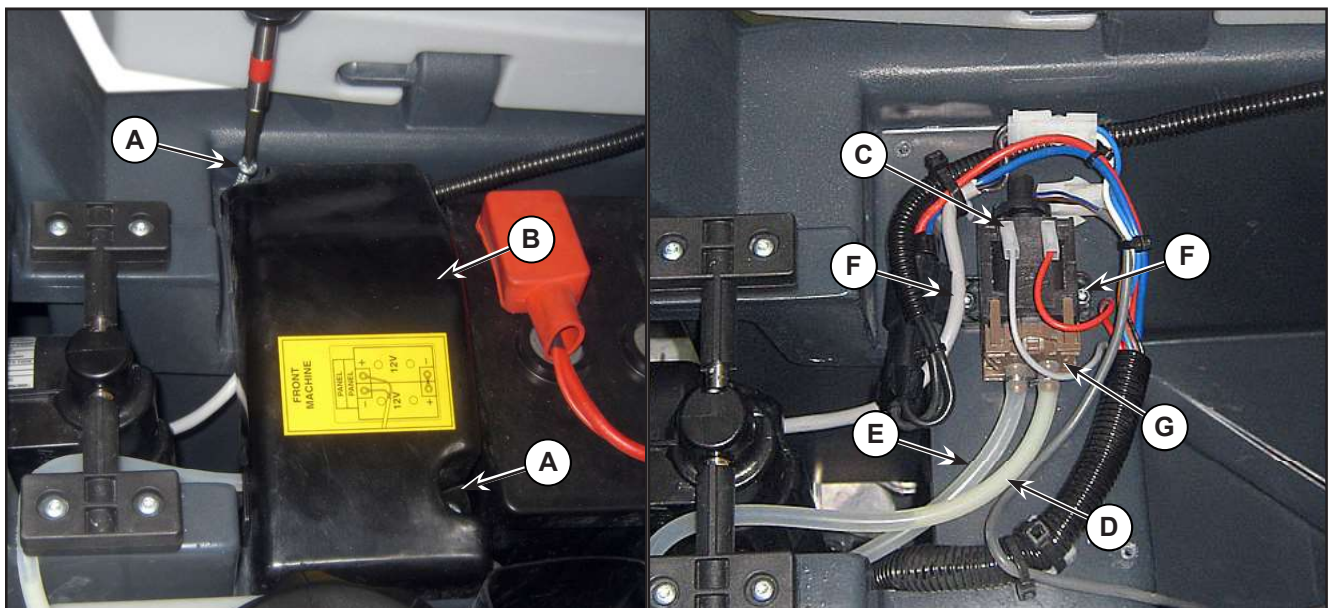

Figure 12:
4. Unscrew the two screws (A) (Figure 12) and remove the cover (B).
5. Disconnect the connectors (C) and the tank hose (D) and brush hose (E).
6. Unscrew the two screws (F) and remove the detergent pump (G).